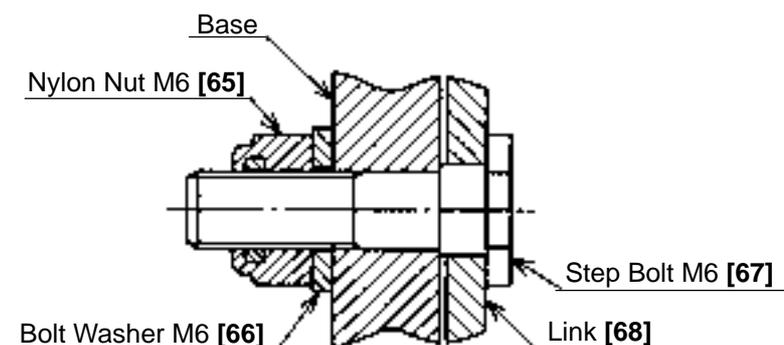

Fig. 11
- (2) Mount the Link [68], the Step Bolt M6 [67], Bolt Washer M6 [66] and the Nylon Nut M6 [65] as shown in Fig. 11. Then, fix the Link [68] onto the base by tightening the Step Bolt M6 [67] and the Nylon Nut M6 [65] using a wrench.